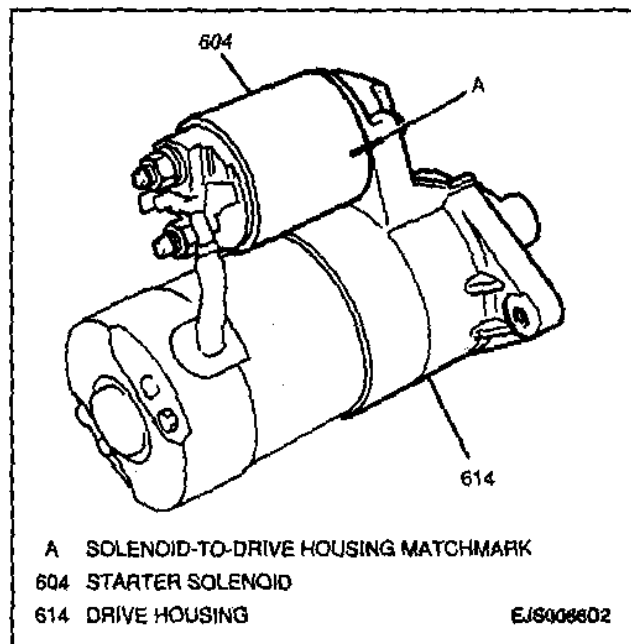

Figure 6—Solenoid-to-Drive Housing Matchmark
Figures 6 through 10
- Scribe matchmarks on the solenoid and drive housing to ensure proper solenoid installation (Figure 6).